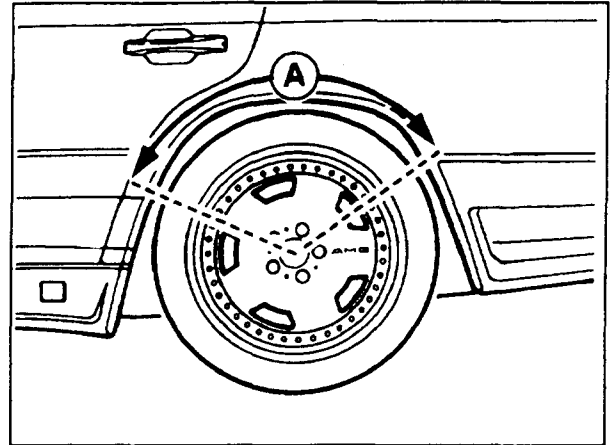

Figure 5
8. The inside edge of the rear fenders must be rebent to an angle of 110° over the complete wheel cutout (A, Figure 5) to accommodate the wider wheels and tires.
11. The fender lip is reworked over the entire area (A, Figure 5) in several stages. A plastic hammer must be used to avoid damaging the paint.